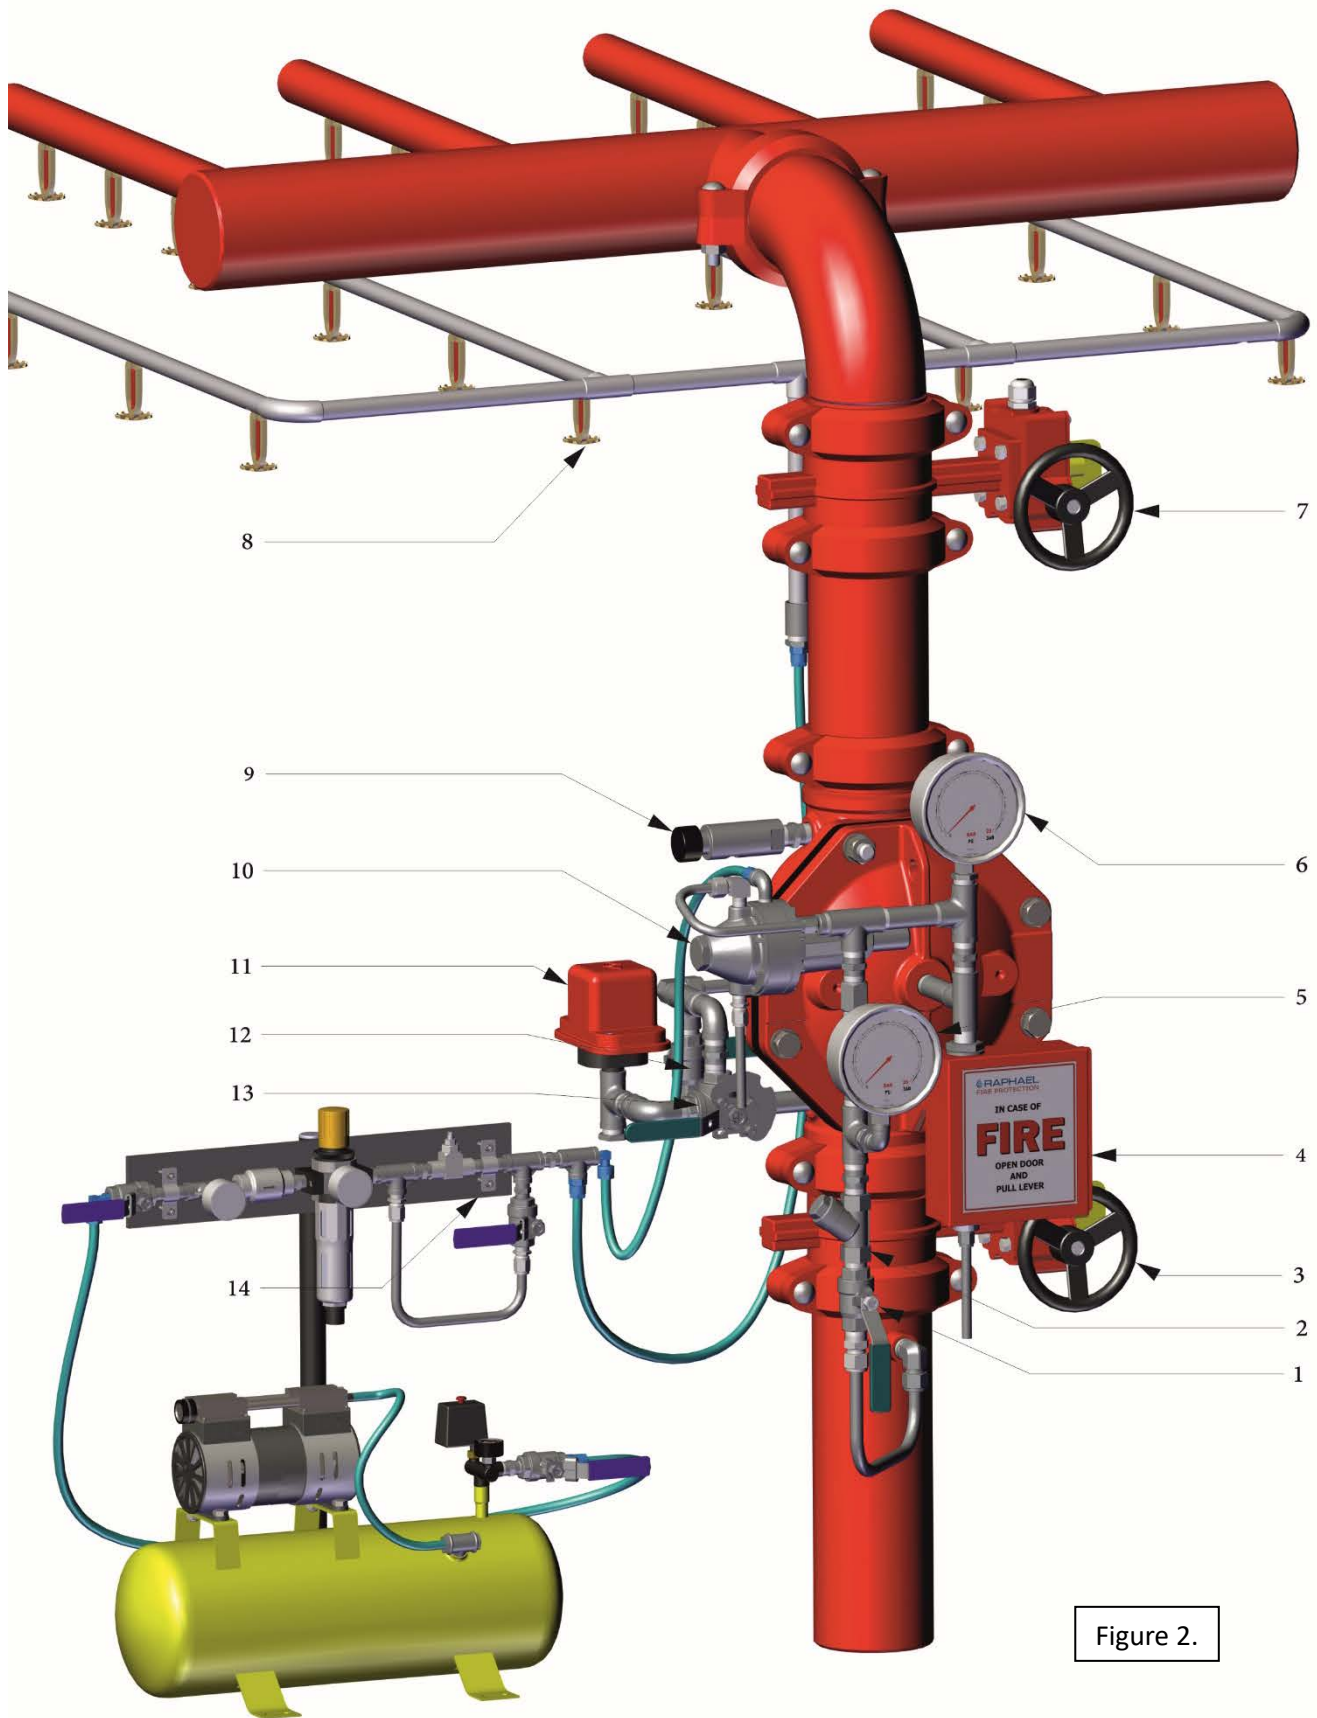

Figure 2.
Installation (Reference Figure 2)
8. All connections to water supply, should be done in accordance with figure 2
(11 Fig 2) – Dry pilot line to the PAV-2 actuator – ¼" NPT female (temporary plugged).
(reference - figure 2)
The procedure described should be carried out after system installation completion and a comprehensive inspection. (Reference Drawing - figure 2)
Fire Situation Simulation (Reference Drawing - figure 2)
(Reference drawing - figure 2)
Resetting & placing in service (Reference Drawing - figure 2)
2. Verify that the upstream butterfly valve (**3** figure 2) and the Trim pressure supply valve (**1**) are in fully open position.